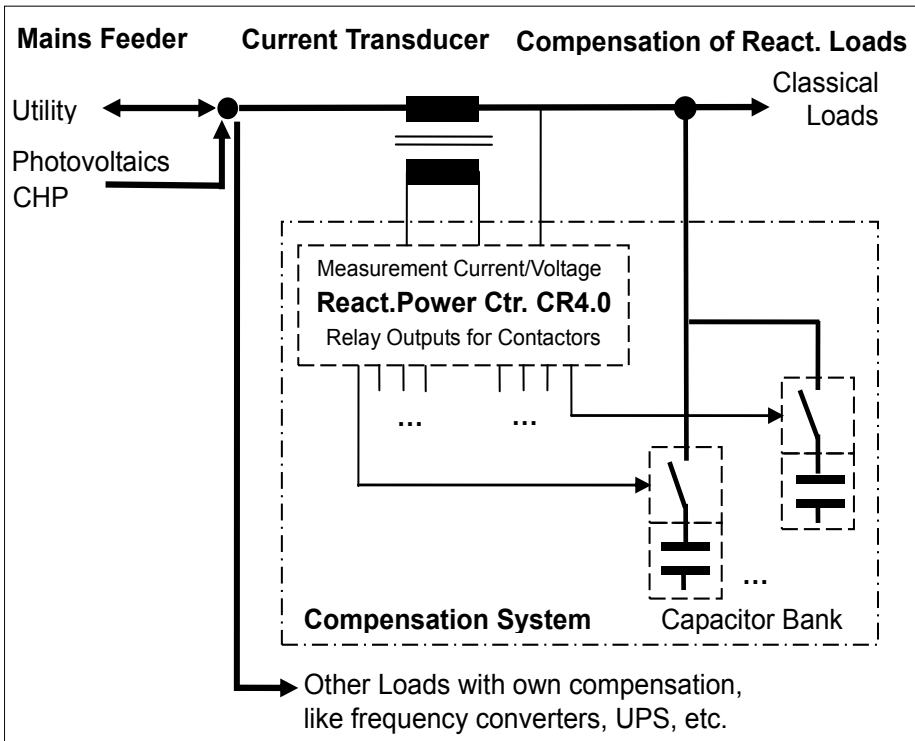

Figure 1
- The **current transducer** must be placed in-between all left sided feeding equipment and all right sided load equipment including the compensation system itself, see Figure 1 Installation Diagram on page 4. Loads comprising their own compensation (e.g. frequency converters, uninterruptible power supply UPS, etc.) should not be included in the reactive power compensation.
- **Reactive Power Compensation and Emergency Power Supply:** Usually it is recommended that a stationary emergency power plant should not be stressed by a reactive power compensation. The diesel generator itself is able to provide any reactive power needed. For this the emergency power plant has to be connected at the right side of the current transducer, see Figure 1 Installation Diagram. Then the reactive power compensation plant automatically idles when the emergency power plant takes over from the utility feeder.
If you have **power generators** (e.g. a photovoltaic plant) installed with the loads **on the right side** of the current transducer (see Figure 1 Installation Diagram) the Reactive Power Controller CR4.0 is not able to see the current between the loads-sided generators and the loads resp. the capacitor bank. Misregulation and particularly switch-off of steps after wrong steps powers measurement may result. Please correct your installation (it would anyway not be accepted by your utility company nor by the subvention authority).
With all feeder and the section switches at the left of the current transducer and all loads to be compensated and the compensation system itself at its right side, see Figure 1 Installation Diagram a standard compensation system fits.